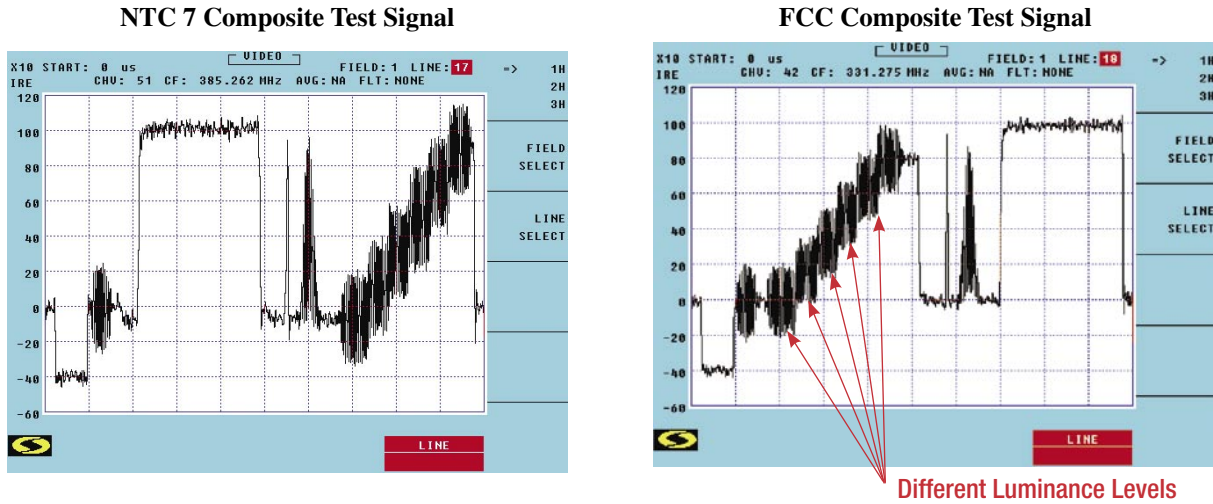

Figure 2
There are many different types of VITS, but two of the VITS signals that can be used are the NTC-7 Composite test signal and the FCC Composite test signal. Both contain what is known as a riser stair step and each step is a burst of the color reference over various luminance levels. The two signals as seen on an AT2500RQV are shown and labeled in Figure 2; they are basically mirror images of each other.
4. To select the correct field and line, press the SPAN key, then the line select soft key. Using the up and down arrow keys, search for either the NTC 7 signal or the FCC as shown in Figure 2 above, then press the escape key.
9. Press the Save Set up soft key and the analyzer will return to the original screen as in Figure 2.